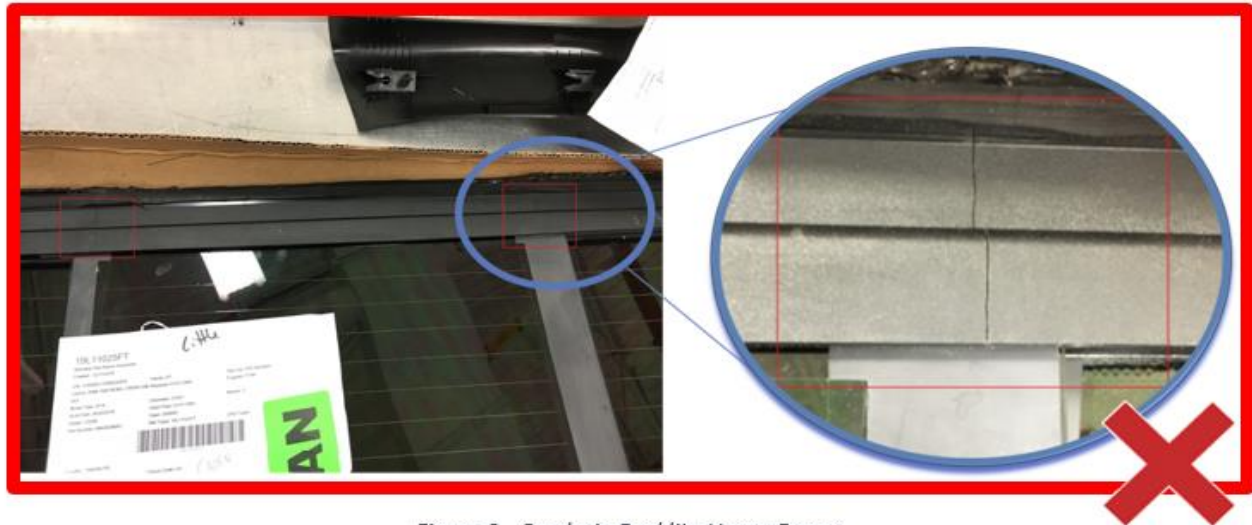

Figure 2 - Cracks in Backlite Upper Frame
- If you feel and see physical cracks separation in the upper frame, probable cause is water leak due to cracked backlite upper frame and backlite should be replaced. See Figure 2.